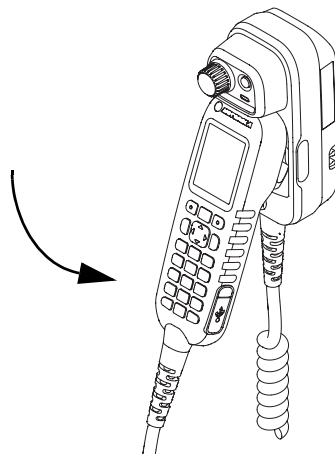

Figure 6-51 Handset Assembly
20. Latch the Handset back on the Cradle as shown in Figure 6-51 below.